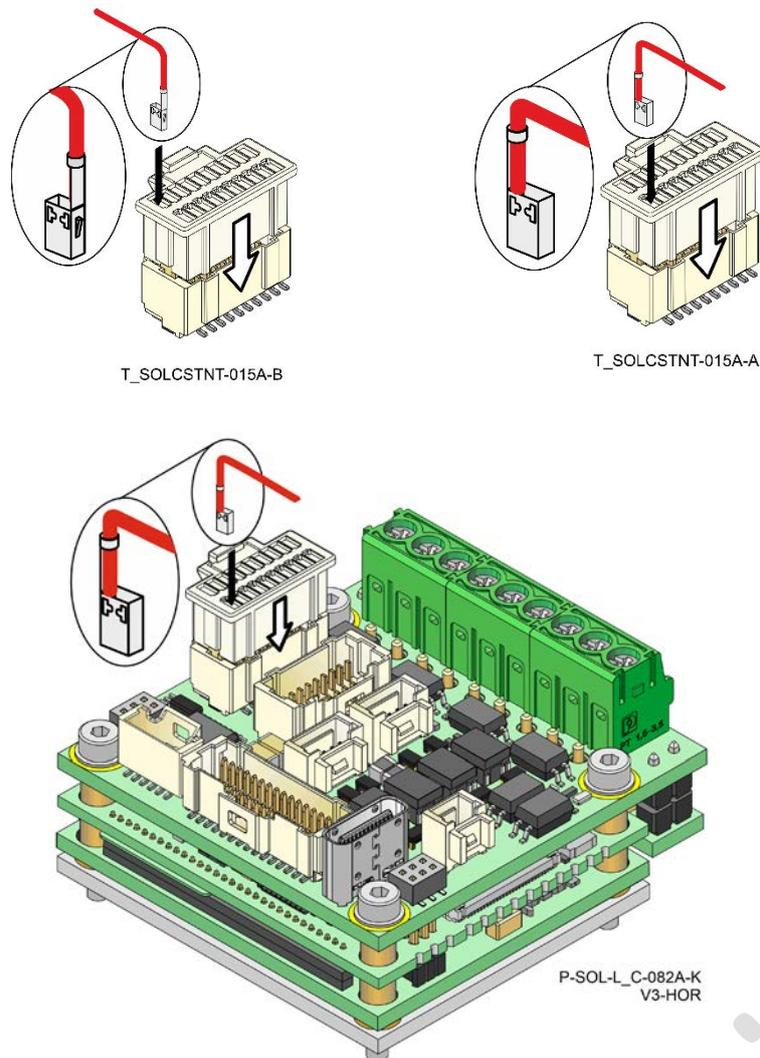

Figure 15: Inserting a wire/pin to the Female Connector
3. Place the connector on a flat surface, in the orientation as shown in Figure 15. Notice that the rectangular slot has a niche at the bottom of the slot.
4. Insert the wire connector to the slot as shown in Figure 15. Make sure that the connector protrusion is inserted to the bottom of the rectangular slot. When inserting the wire connector to a slot in the second row, make sure to rotate the connector in the opposite orientation.